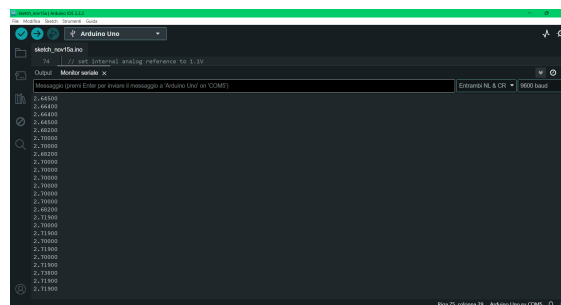

Figure 17: Arduino IDE: Correct firmware installation. Serial Monitor Data
- **Serial Monitor:** To verify your firmware sends data to the computer (e.g., flow rate readings), open the Serial Monitor, ensure the **Baud Rate** matches what's set in your code (9600). You should see data streaming in from the digital flow sensor, as shown in Figure 17.